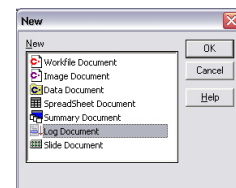
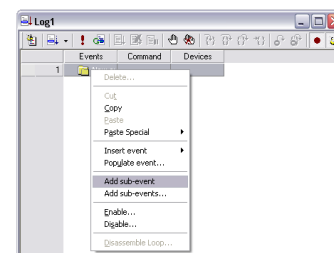
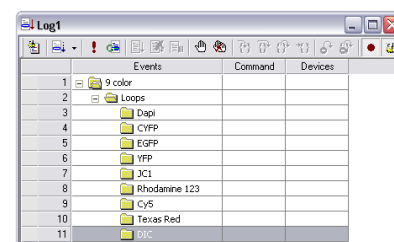

fig.1
fig.2
fig.3
1. Click the **New** icon or press **Ctrl+N** /Select **Log Document** from the **New** window Click **OK (fig.1)**. The **Log Document** appears (**fig.2**).
2. Add the acquisition events (**fig.2**). Rename the **New Experiment** event folder to **Nine Color**. Right-click on the **Nine Color** event folder and select **Add Sub-event** from the drop-down menu. Click the **+** icon to expand the event folder. A sub-event folder named **Event_1** appears, rename this event folder **Loops**. Right-click on the **Loops** event folder and select **Add sub-events...** from the drop down menu. Enter the number of events to be added. For this example we need to add ten event folders, nine folders for each fluorochrome, and one for time delay. Enter 10 in the pop-up window and click **OK**. Note that you can add or delete additional folders. Click the **+** sign next to the **Loops** event folder to expand the folder and reveal the additional ten event folders. Rename the folders as shown in figure 3.
3. Add how many times you want to loop through the events (**fig.3**). In the **Command** column, double click on the cell across the **Loops** event folder and enter the number of loops; for example 50. This is how many times the acquisition will be repeated.